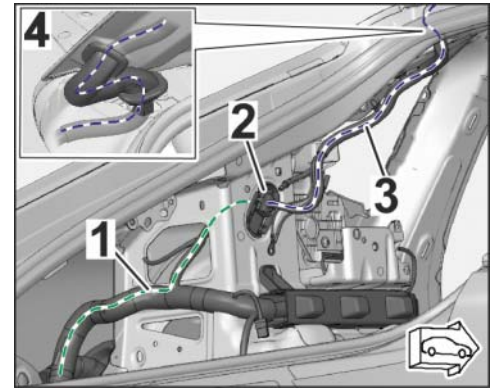
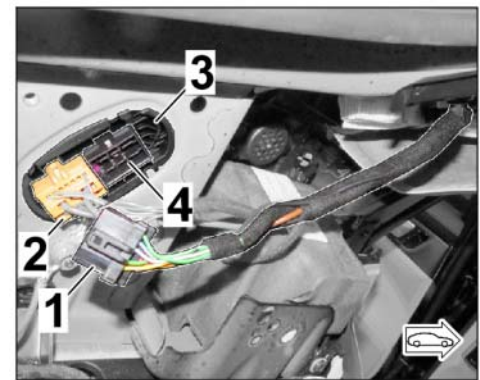
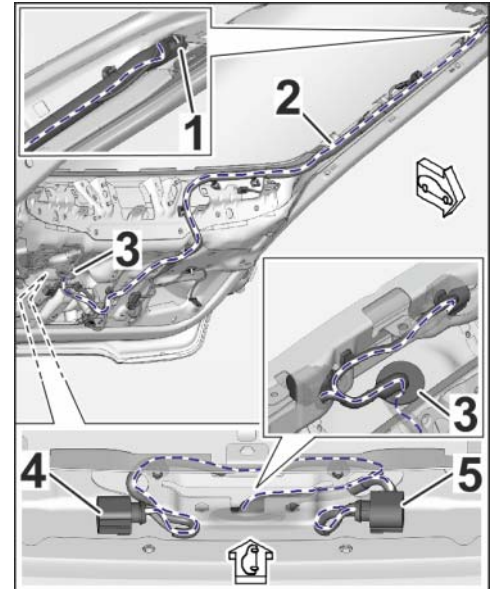

Figure 14
Figure 15
Figure 16
2.2.3 Rear lid connection point area, left C-pillar (see also wiring diagram 45A – left rear cap) ⇒ *Figure 14*
Disconnect plug connections, 17-pin (black and brown) and remove plug connections holder from the C-pillar if necessary. ⇒ *Figure 15*
Overview of routing of wire harness for module HKL_le: ⇒ *Figure 14* and ⇒ *Figure 16*
2.3.5 Rear lid connection point, left C-pillar (see also wiring diagram 45A – left rear cap) ⇒ *Figure 14* and ⇒ *Figure 15*